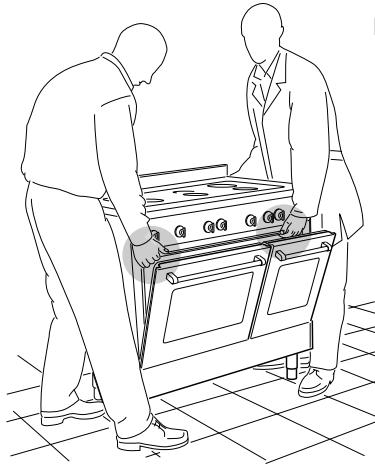
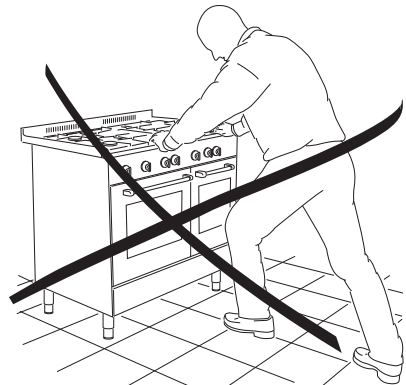

Fig. 9.6
Fig. 9.8
**WARNING:** When raising cooker to upright position always ensure two people carry out this manoeuvre to prevent damage to the adjustable feet (fig. 9.6).
When moving cooker to its final position **DO NOT DRAG** (fig. 9.8). Lift feet clear of floor (fig. 9.6).